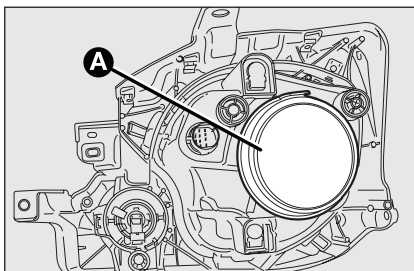

fig. 11
- remove the cover **A**-fig. 11;